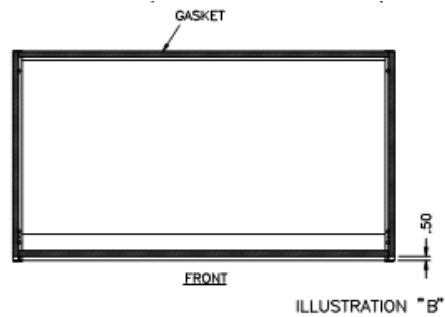

Figure 1 1 Cube Probe Location
2. The probe plugged into “EVAP” is for the crush side of the bin and the probe plugged into “BIN” is for the cube side of the bin. There is a hole located behind the crusher motor for placement of the crush probe and the cube probe will be inserted in the right side of the crusher. Locations for probe placement are shown in **Figures 1 and 2**.